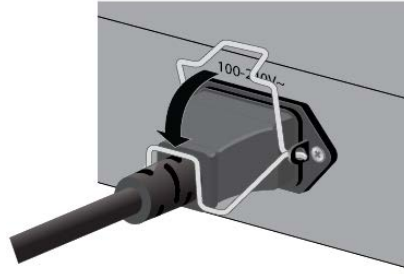

Figure 61. Lowering the Power Cord Retaining Clip
3. Lower the retaining clip to secure the power cord to the switch. Refer to Figure 61.